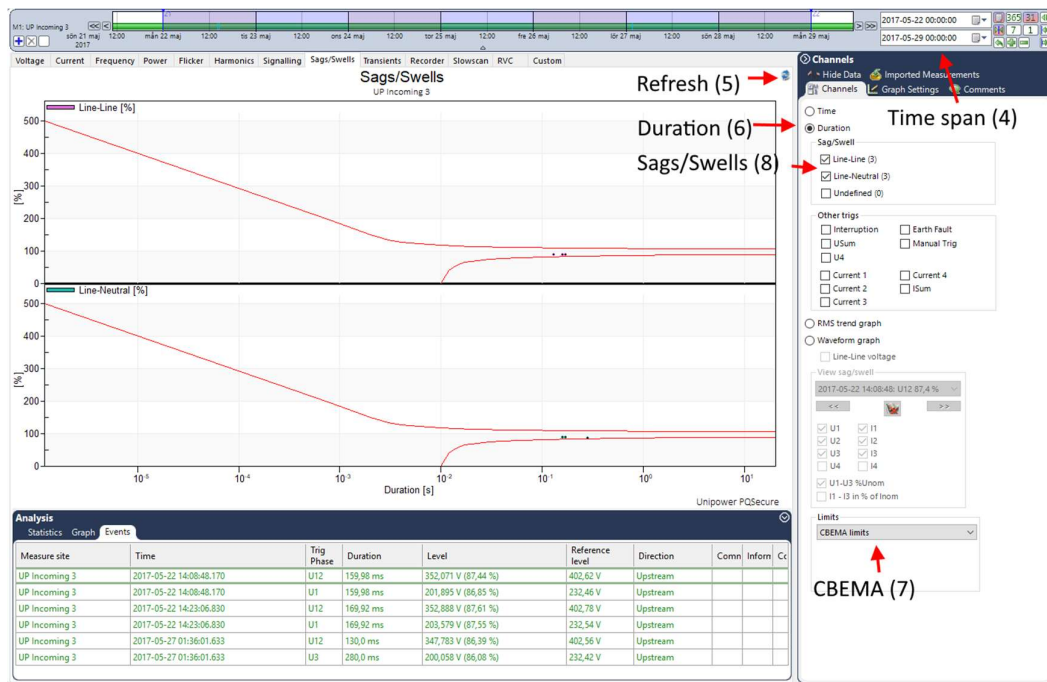

Figure 7
3. Select the **Sags/Swells** tab (see Figure 7)
7. Check the **CBEMA limits** and a plot with the CBEMA limits included will be displayed (see Figure 7)